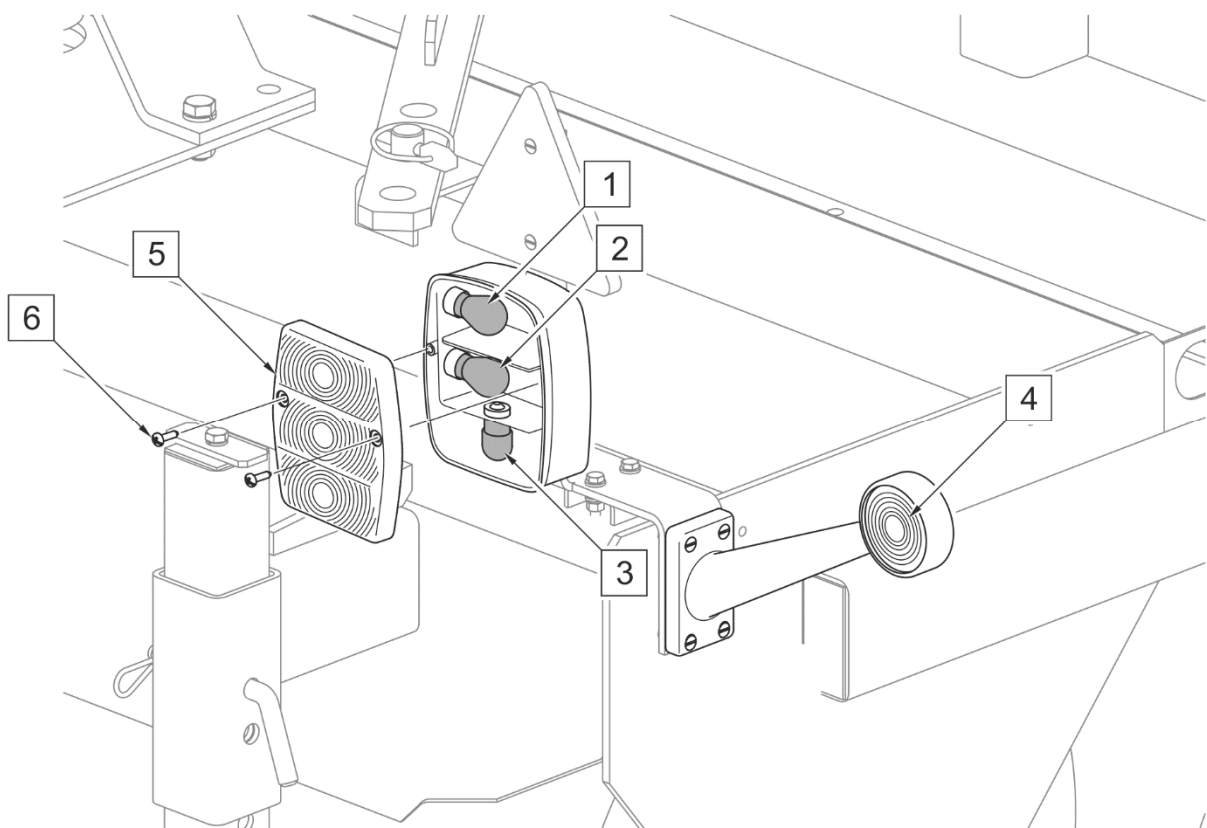

FIG. 5.12 Replacement of bulbs
(1) - indicator light bulb; (2) - brake light bulb; (3) - parking light bulb; (4) - LED clearance lamp; (5) - lamp assembly lens; (6) - screw
After connecting to the 7-pole socket on the tractor, check operation of the lighting system. In case of bulb burnout in lamp assembly, unscrew screws (6) that secure lamp lens (5) and replace appropriate bulb (FIG. 5.12). The clearance lights (4) are maintenance-free LED lights.